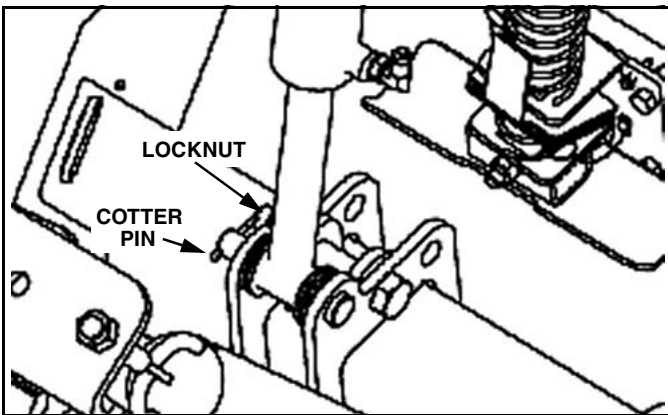

Figure 1-21
- d. Slide the brackets together. Secure the lift pin with a cotter pin and the cap screw with a 3/4" locknut. (See Figure 1-21).